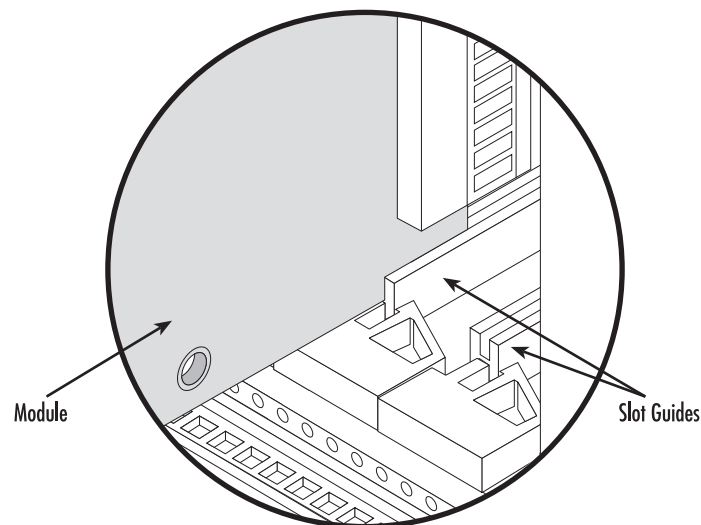

Figure 8. Inserting module into rack slot guides
5. Locate the slot where the 3125™ will be installed. Insert the 3125™ so it enters the corresponding top and bottom slot guides as shown in figure 8.
4. Locate the slot where the 3125RC will be installed. Insert the 3125RC so it enters the corresponding top and bottom slot guides as shown in figure 8 on page 28.